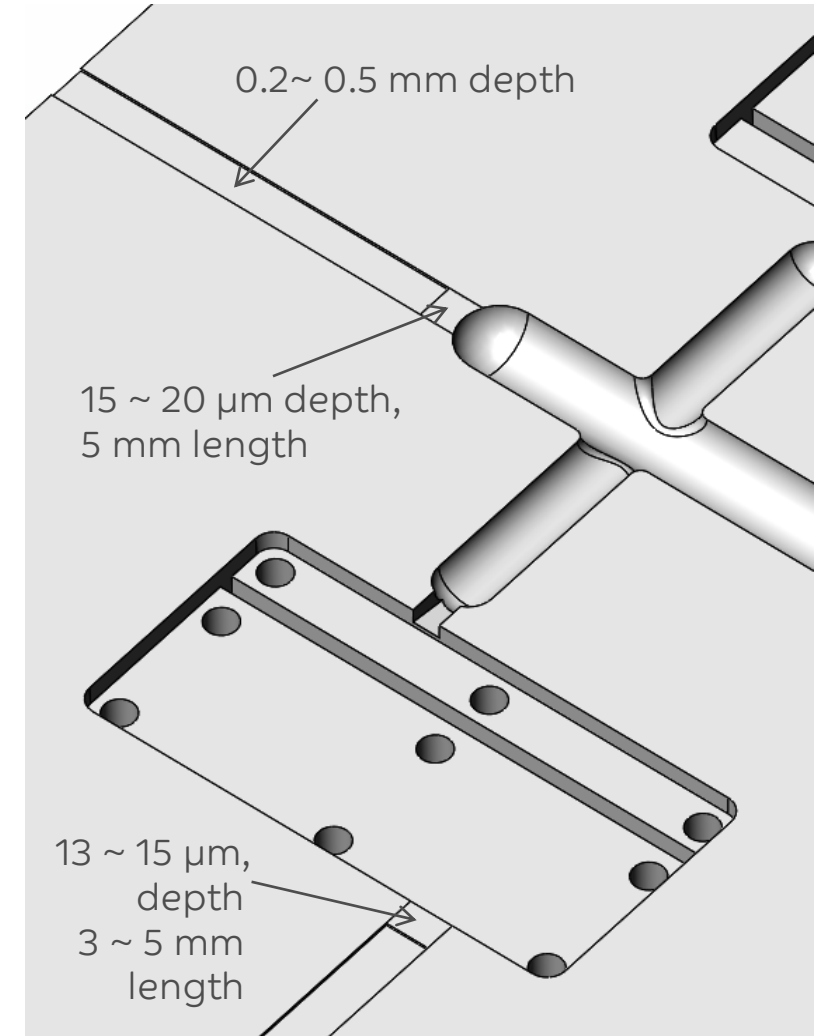

Fig. 2-8: Example of small part venting
- For small part molding, shallow vent depth are required in order to avoid flashing (Fig. 2-8 shows the example).